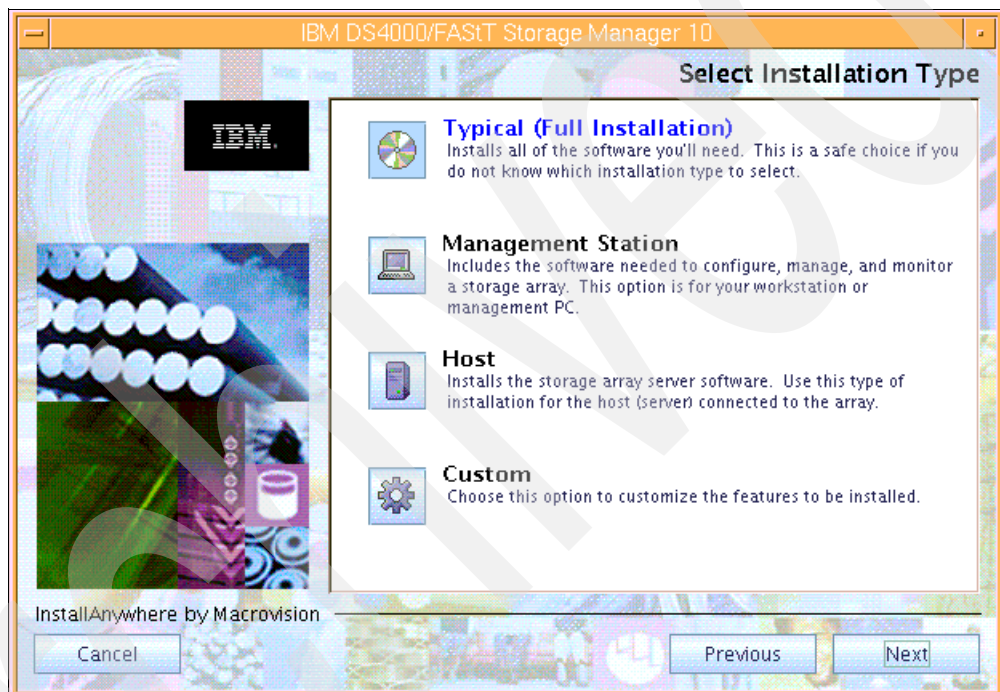

Figure 4-25 Installing Storage Manager software in AIX
6. Now select the installation type, as shown in Figure 4-25: